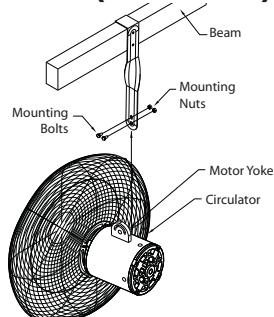

Figure 6 — Suspension Bracket Installation
1. Locate the nearest ceiling stud in the desired mounting location. Suspension bracket is designed to fit over standard size 2 inch lumber and should be hung from any horizontal member 2 x 3 inch or larger. (See Figure 6)